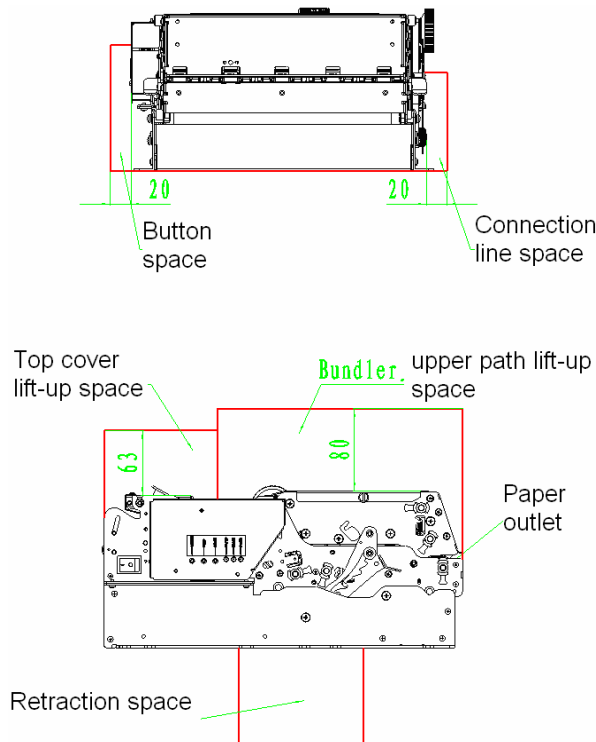

Fig. 4.6.1 Structure spaces
- while operating and doing routine maintenance, we suggest reserving the space as follows (Fig.4.6.1) in order to guarantee printer working reliability and easy operation efficiently.